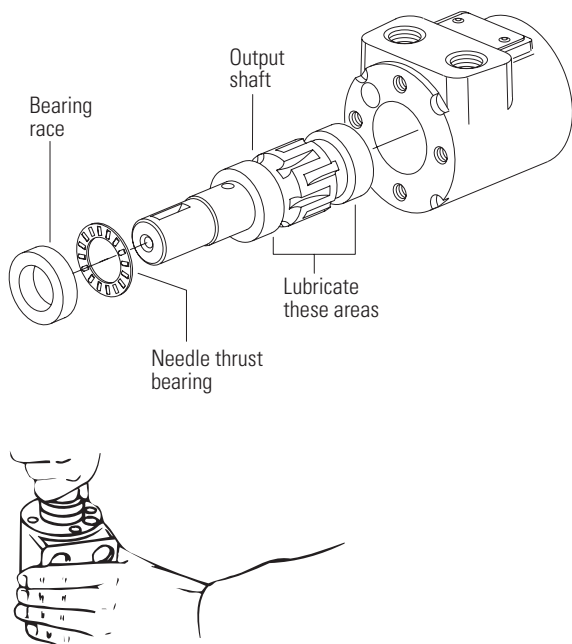

Figure 11
19. Lubricate output shaft with hydraulic oil, then install shaft in housing (see Figure 11).
20. Install needle thrust bearing, then bearing race on shaft. Pull shaft partially out of housing. Push all three parts in housing together (see Figure 11). The bearing race must rotate freely when in position.